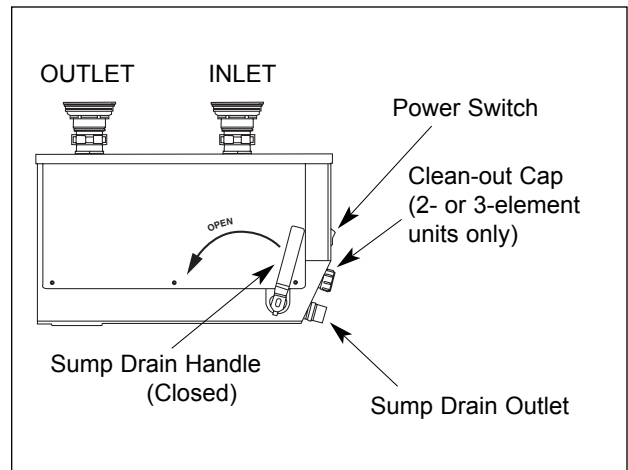

Figure 8. Hydro-Heater Side View
1. Make sure clean-out cap(s) (2-3 element units only) are securely tightened. See Figure 8.
2. Close sump drain by moving handle all of the way forward **until it stops**. See Figure 8.